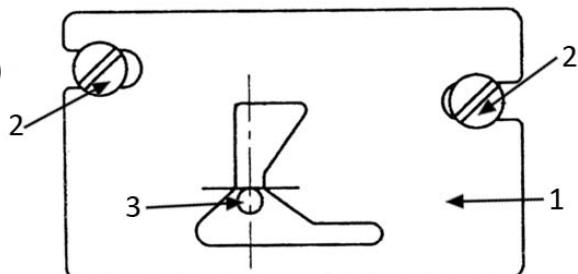

Fig. 24
- Remove the needle plate, loosen screws (2) of a base (1), Fig. 24.
- Set the position of base towards the needle (3), as same as in the Figure, tighten screws (2).